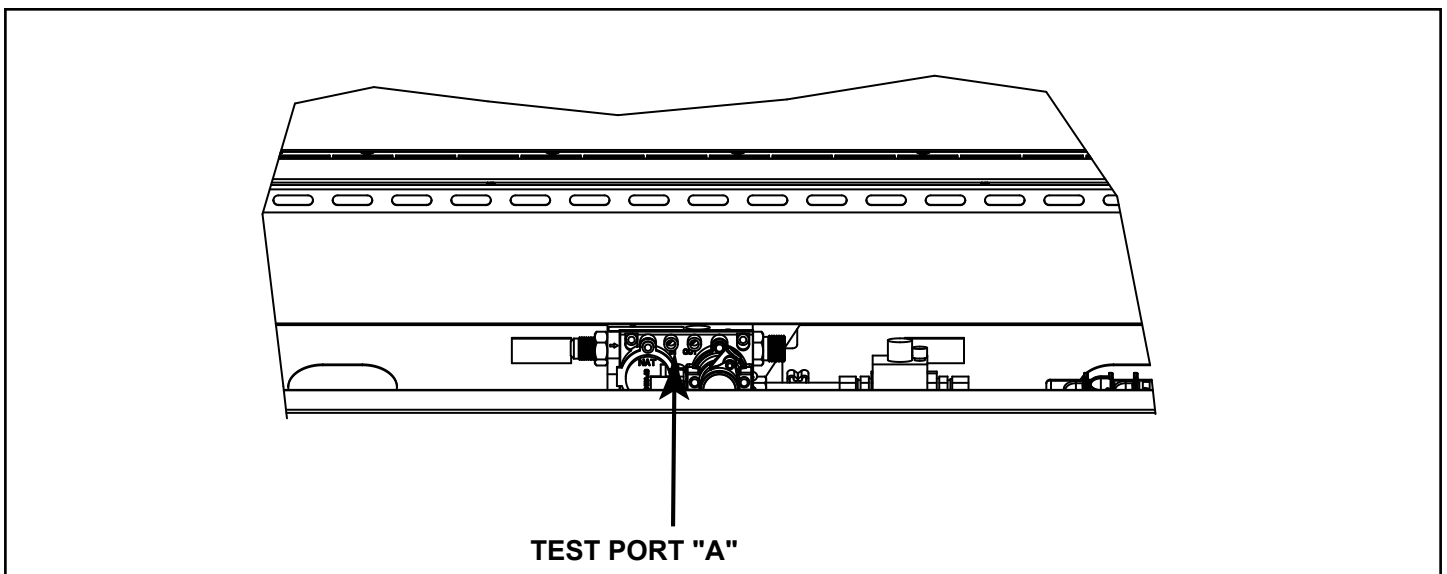

Figure 5.1.- Valve Pressure Tap
- Valve pressure taps are accessible by lifting the engine assembly. See Figures 5.1 & 5.2.